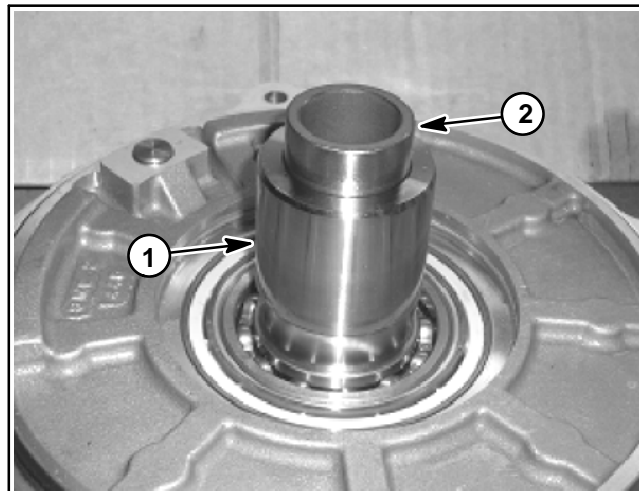

Figure 23
3. Press the new male output hub/bearing assembly into the cover plate assembly. The bearing has a slight interference fit to the bore, so it should not take much force to press in (Fig. 23). Take care to not damage the seal in the cover plate during installation of the output hub assembly.